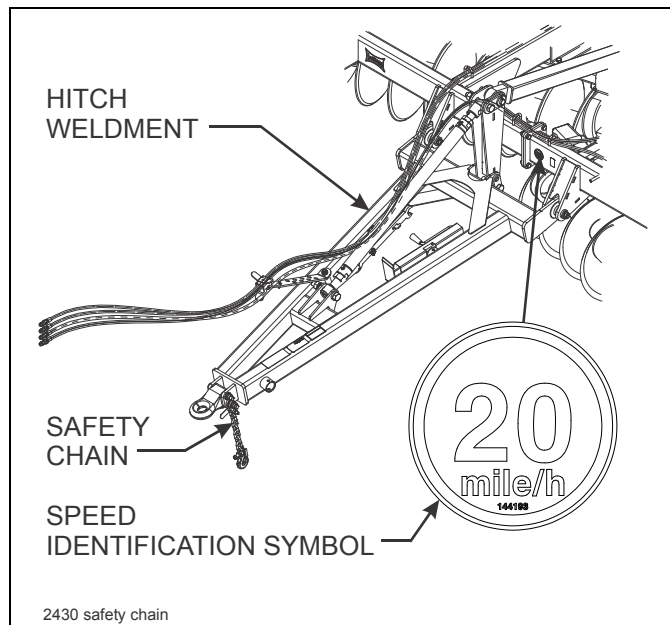

Figure 4-13: Hitch and Safety Chain
- b. Attach the safety chain to the tractor drawbar **(See Figure 4-13.)** Provide only enough slack in the chain for turning. Do not use an intermediate chain support as the attaching point for the chain on the tractor. Do not pull the implement by the safety chain.